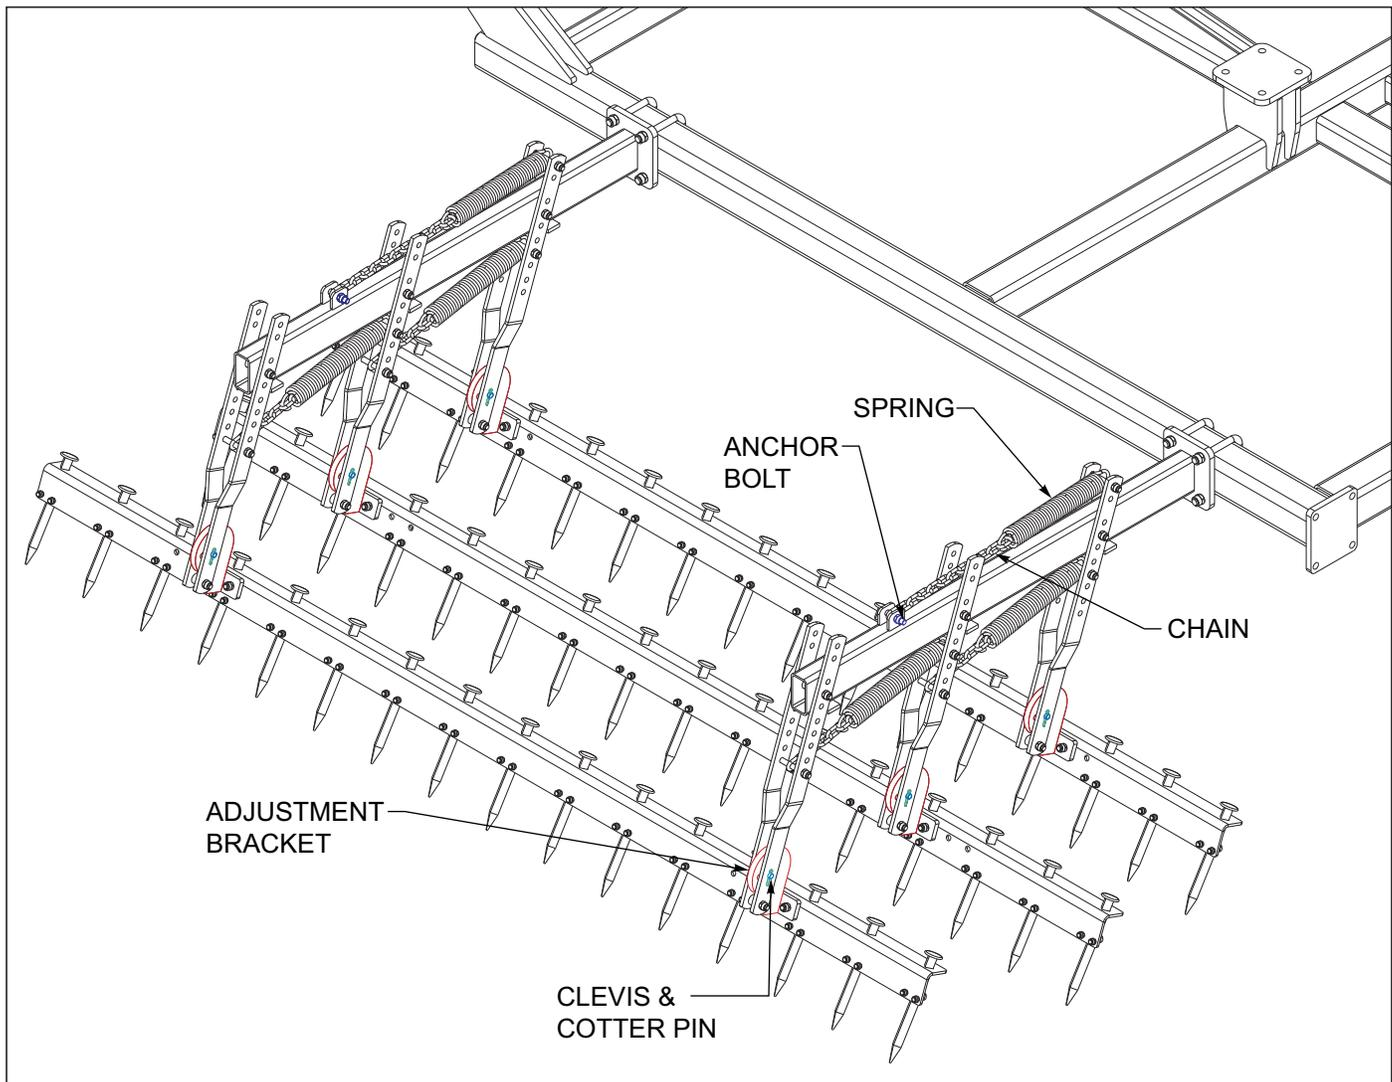

Figure 4-12: Harrow Adjustment
1. The harrow on the rear of the machine can be set for a variety of field conditions *See Figure 4-12*. The harrow that is set up according to the assembly instructions for a working depth of 3 - 5 inches.